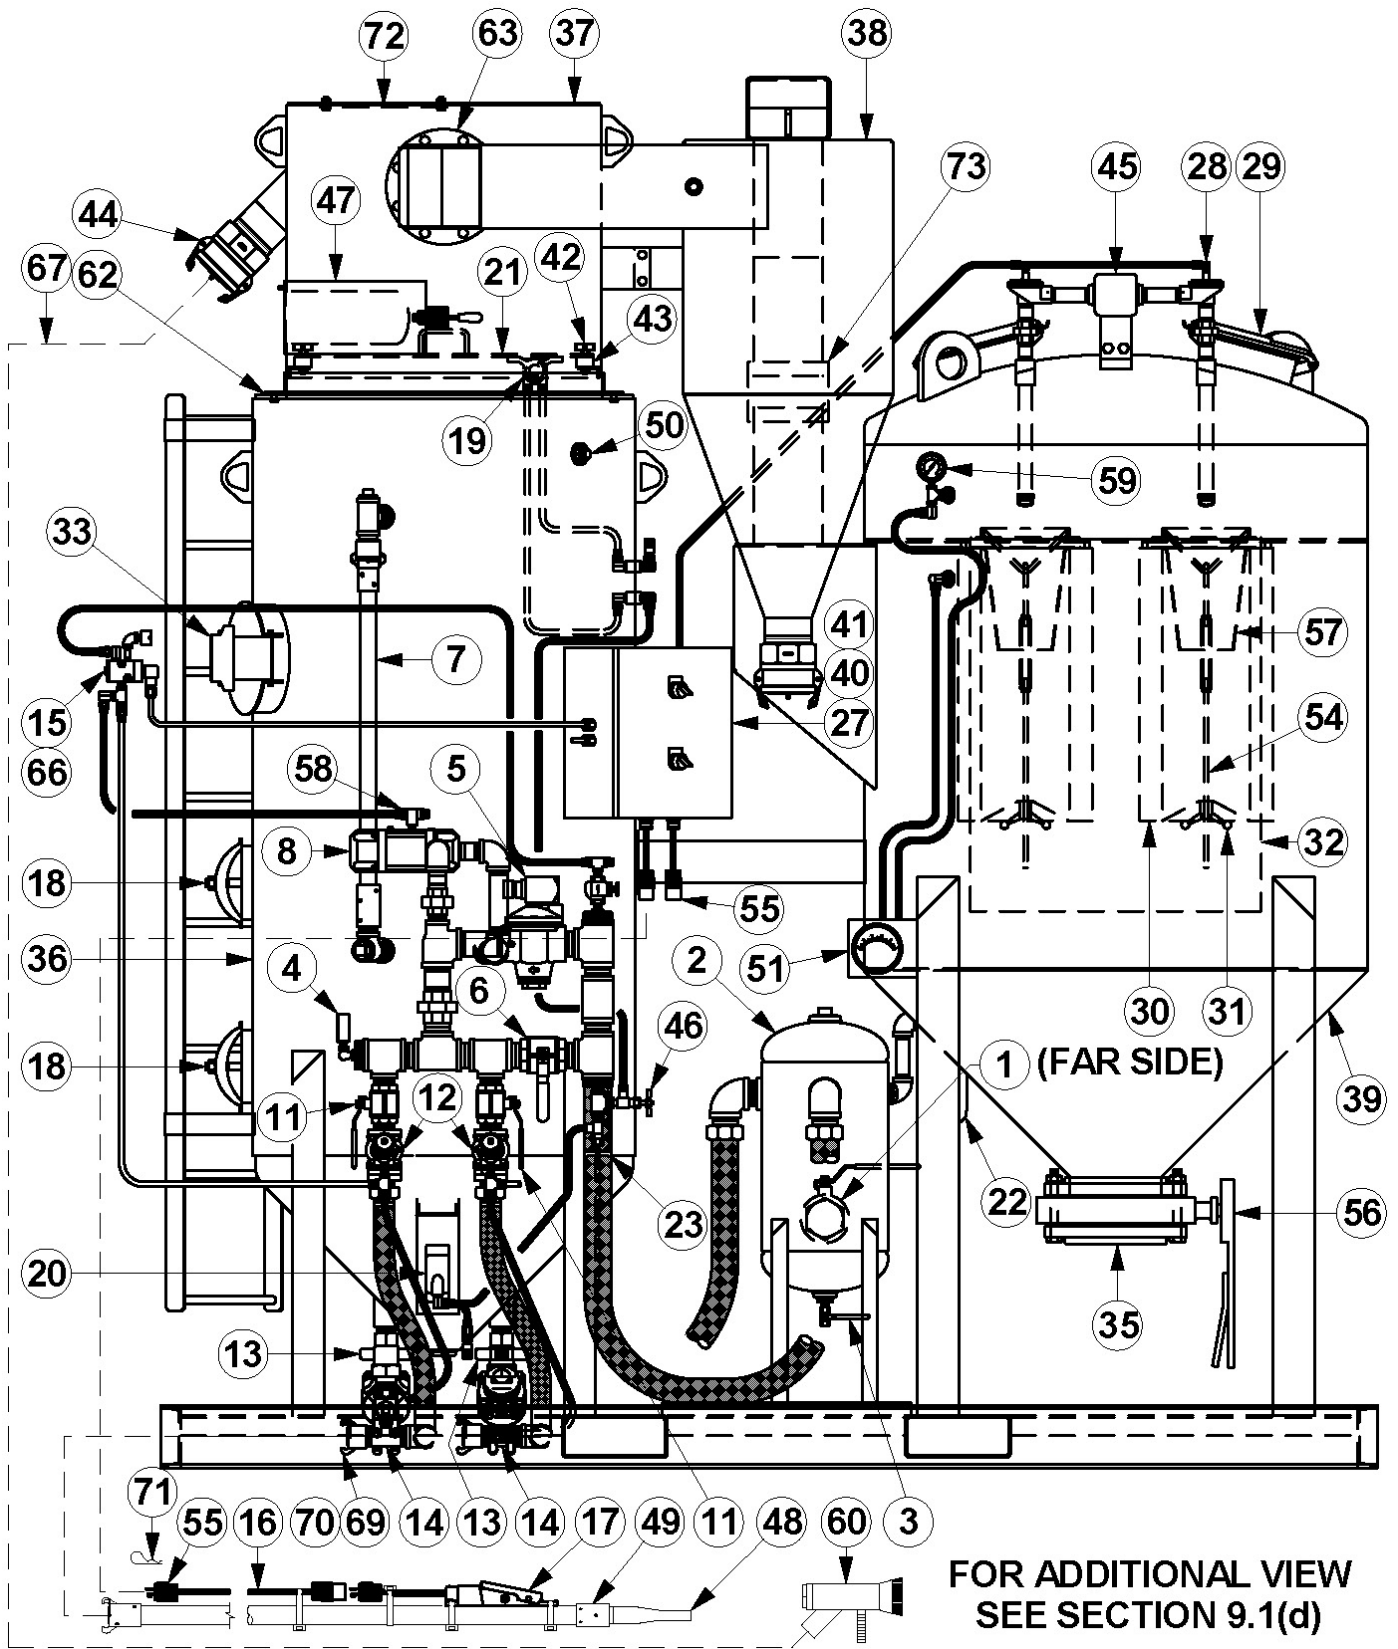

Figure 6.1 – Typical BRS2 Abrasive Blaster
6.1 BRS2 Abrasive Blaster Setup Procedure (see Figure 6.1)
- 6.2.2. The BRS2 abrasive blast system will automatically depressurize when the deadman lever (#17) is released. The blast vessel air pressure will exhaust through the blowdown hose (#7) and into the reclaim hopper. See Figure 6.1.